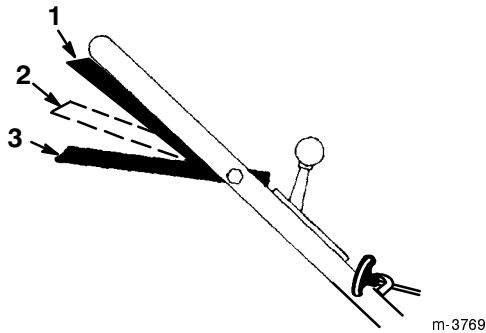

Figure 13
- Squeeze the control bar against the handle to the *Run/Drive* position (Fig. 13).
Note: Do not shift speeds while you squeeze the control bar against the handle in the *Run/Drive* position; this can damage the transmission. Move the control bar to the *Run/Shift* position (Fig. 13) when you change the ground speed.